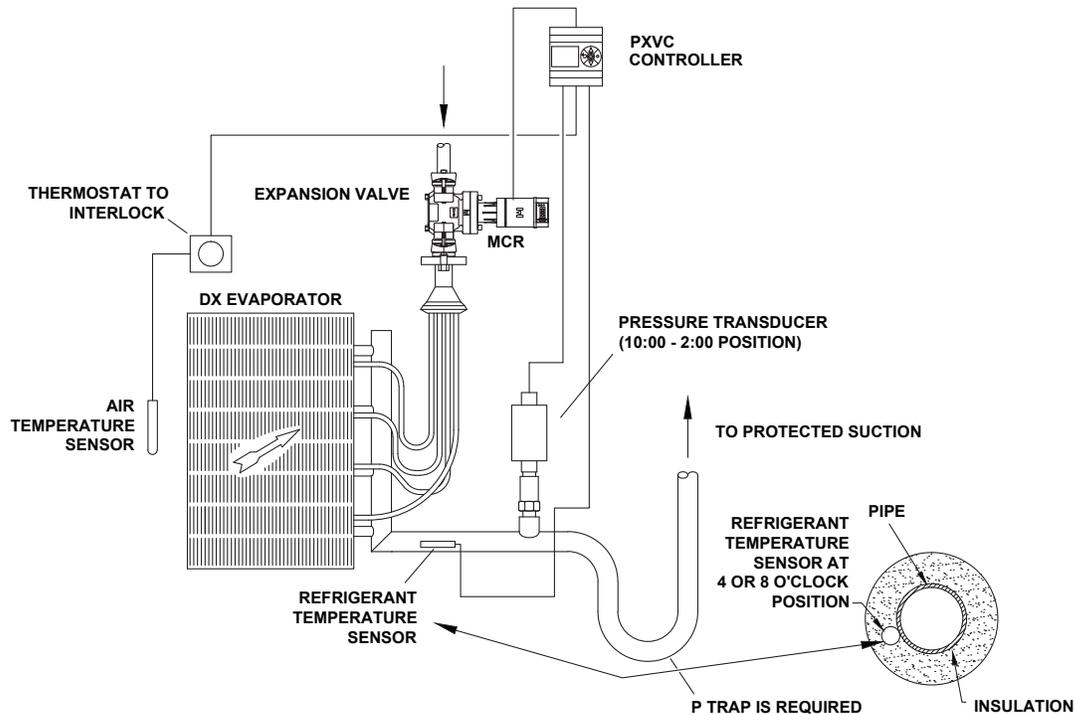
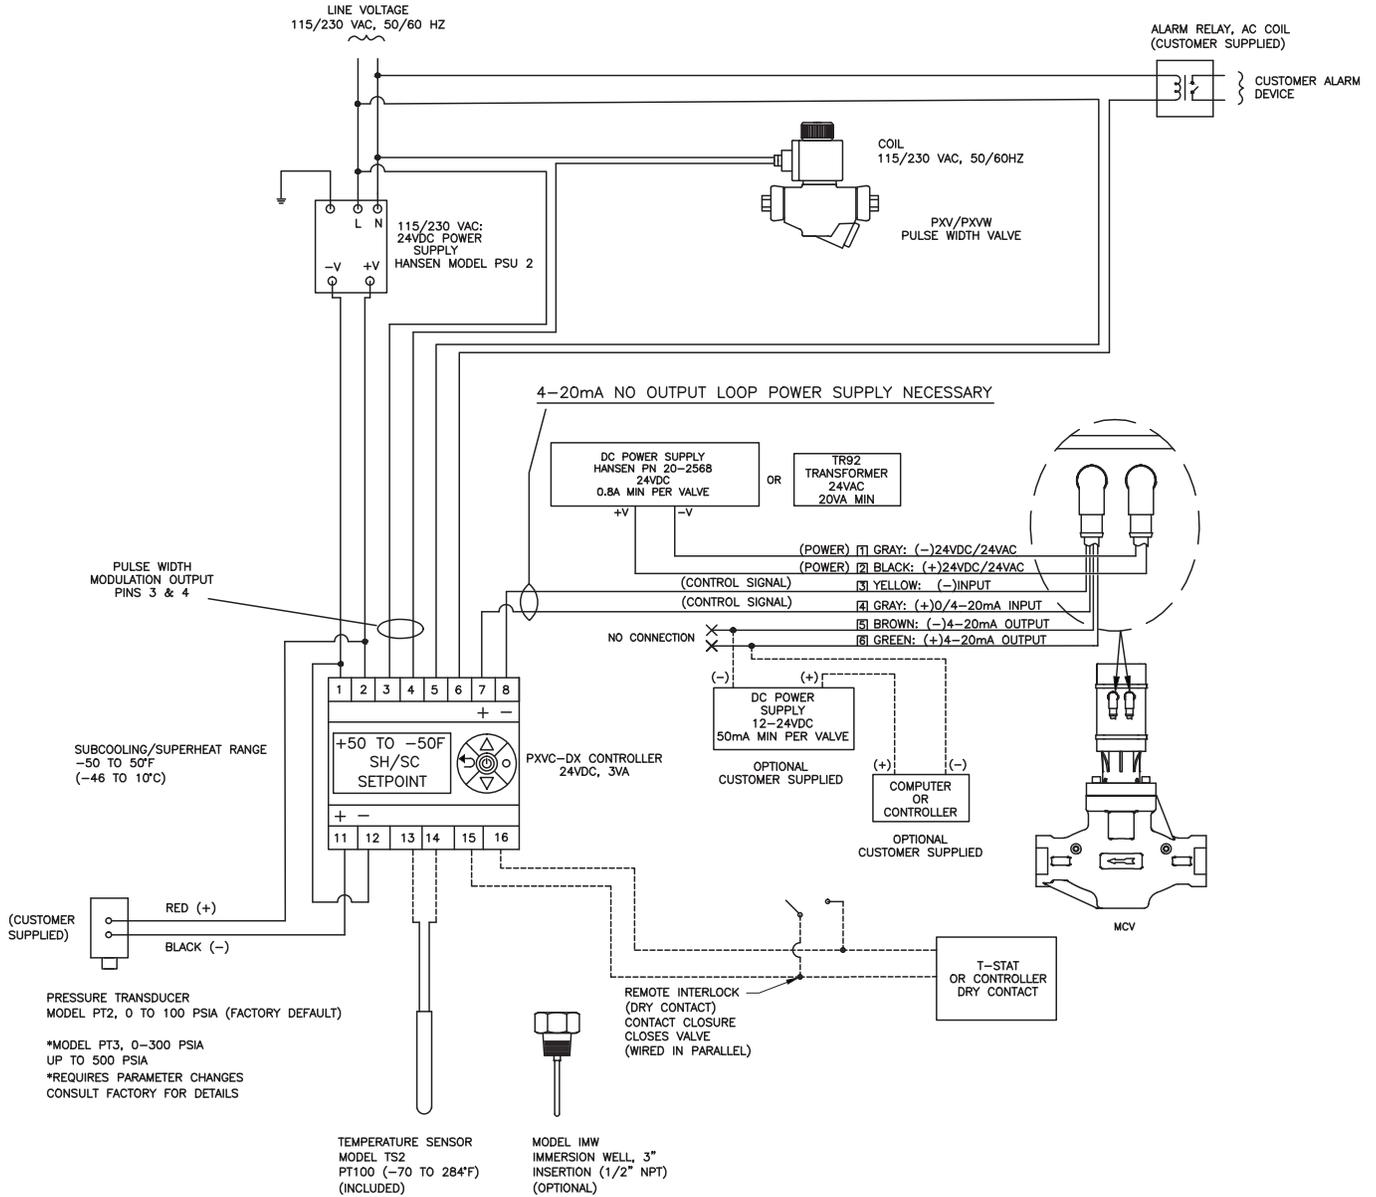

FIGURE 6.
FIGURE 7.
8. Replace interlock with temperature control interlock (thermostat (dry contact) or system closed contact control) to pins 15 and 16. Failure to do so will result in inability to precisely control temperature and undesirable operation. A manual interlock may be used to override the system when wired in parallel with the media temperature control interlock as shown in Figure 6.
System design considerations: Where liquid may be present, to precisely measure temperature, a trap is required to be installed in the piping directly after the sensing unit and an immersion well installed in the line to allow the sensor to contact the working fluid when sensing superheat or temperature. This allows the saturated gas/liquid mixture level to stabilize in the trap and the sensor to read the temperature of the liquid which conducts heat much more readily than gas, as shown in drawing Figure 6. Either the PXV or Motorized Control Valve may be used in this configuration refer to Figure 7 for details.
8. Replace interlock with temperature control interlock (thermostat (dry contact) or system closed contact control) to pins 13 and 14. Failure to do so will result in inability to precisely control temperature and undesirable operation. A manual interlock may be used to override the system when wired in parallel with the media temperature control interlock as shown in Figure 6.